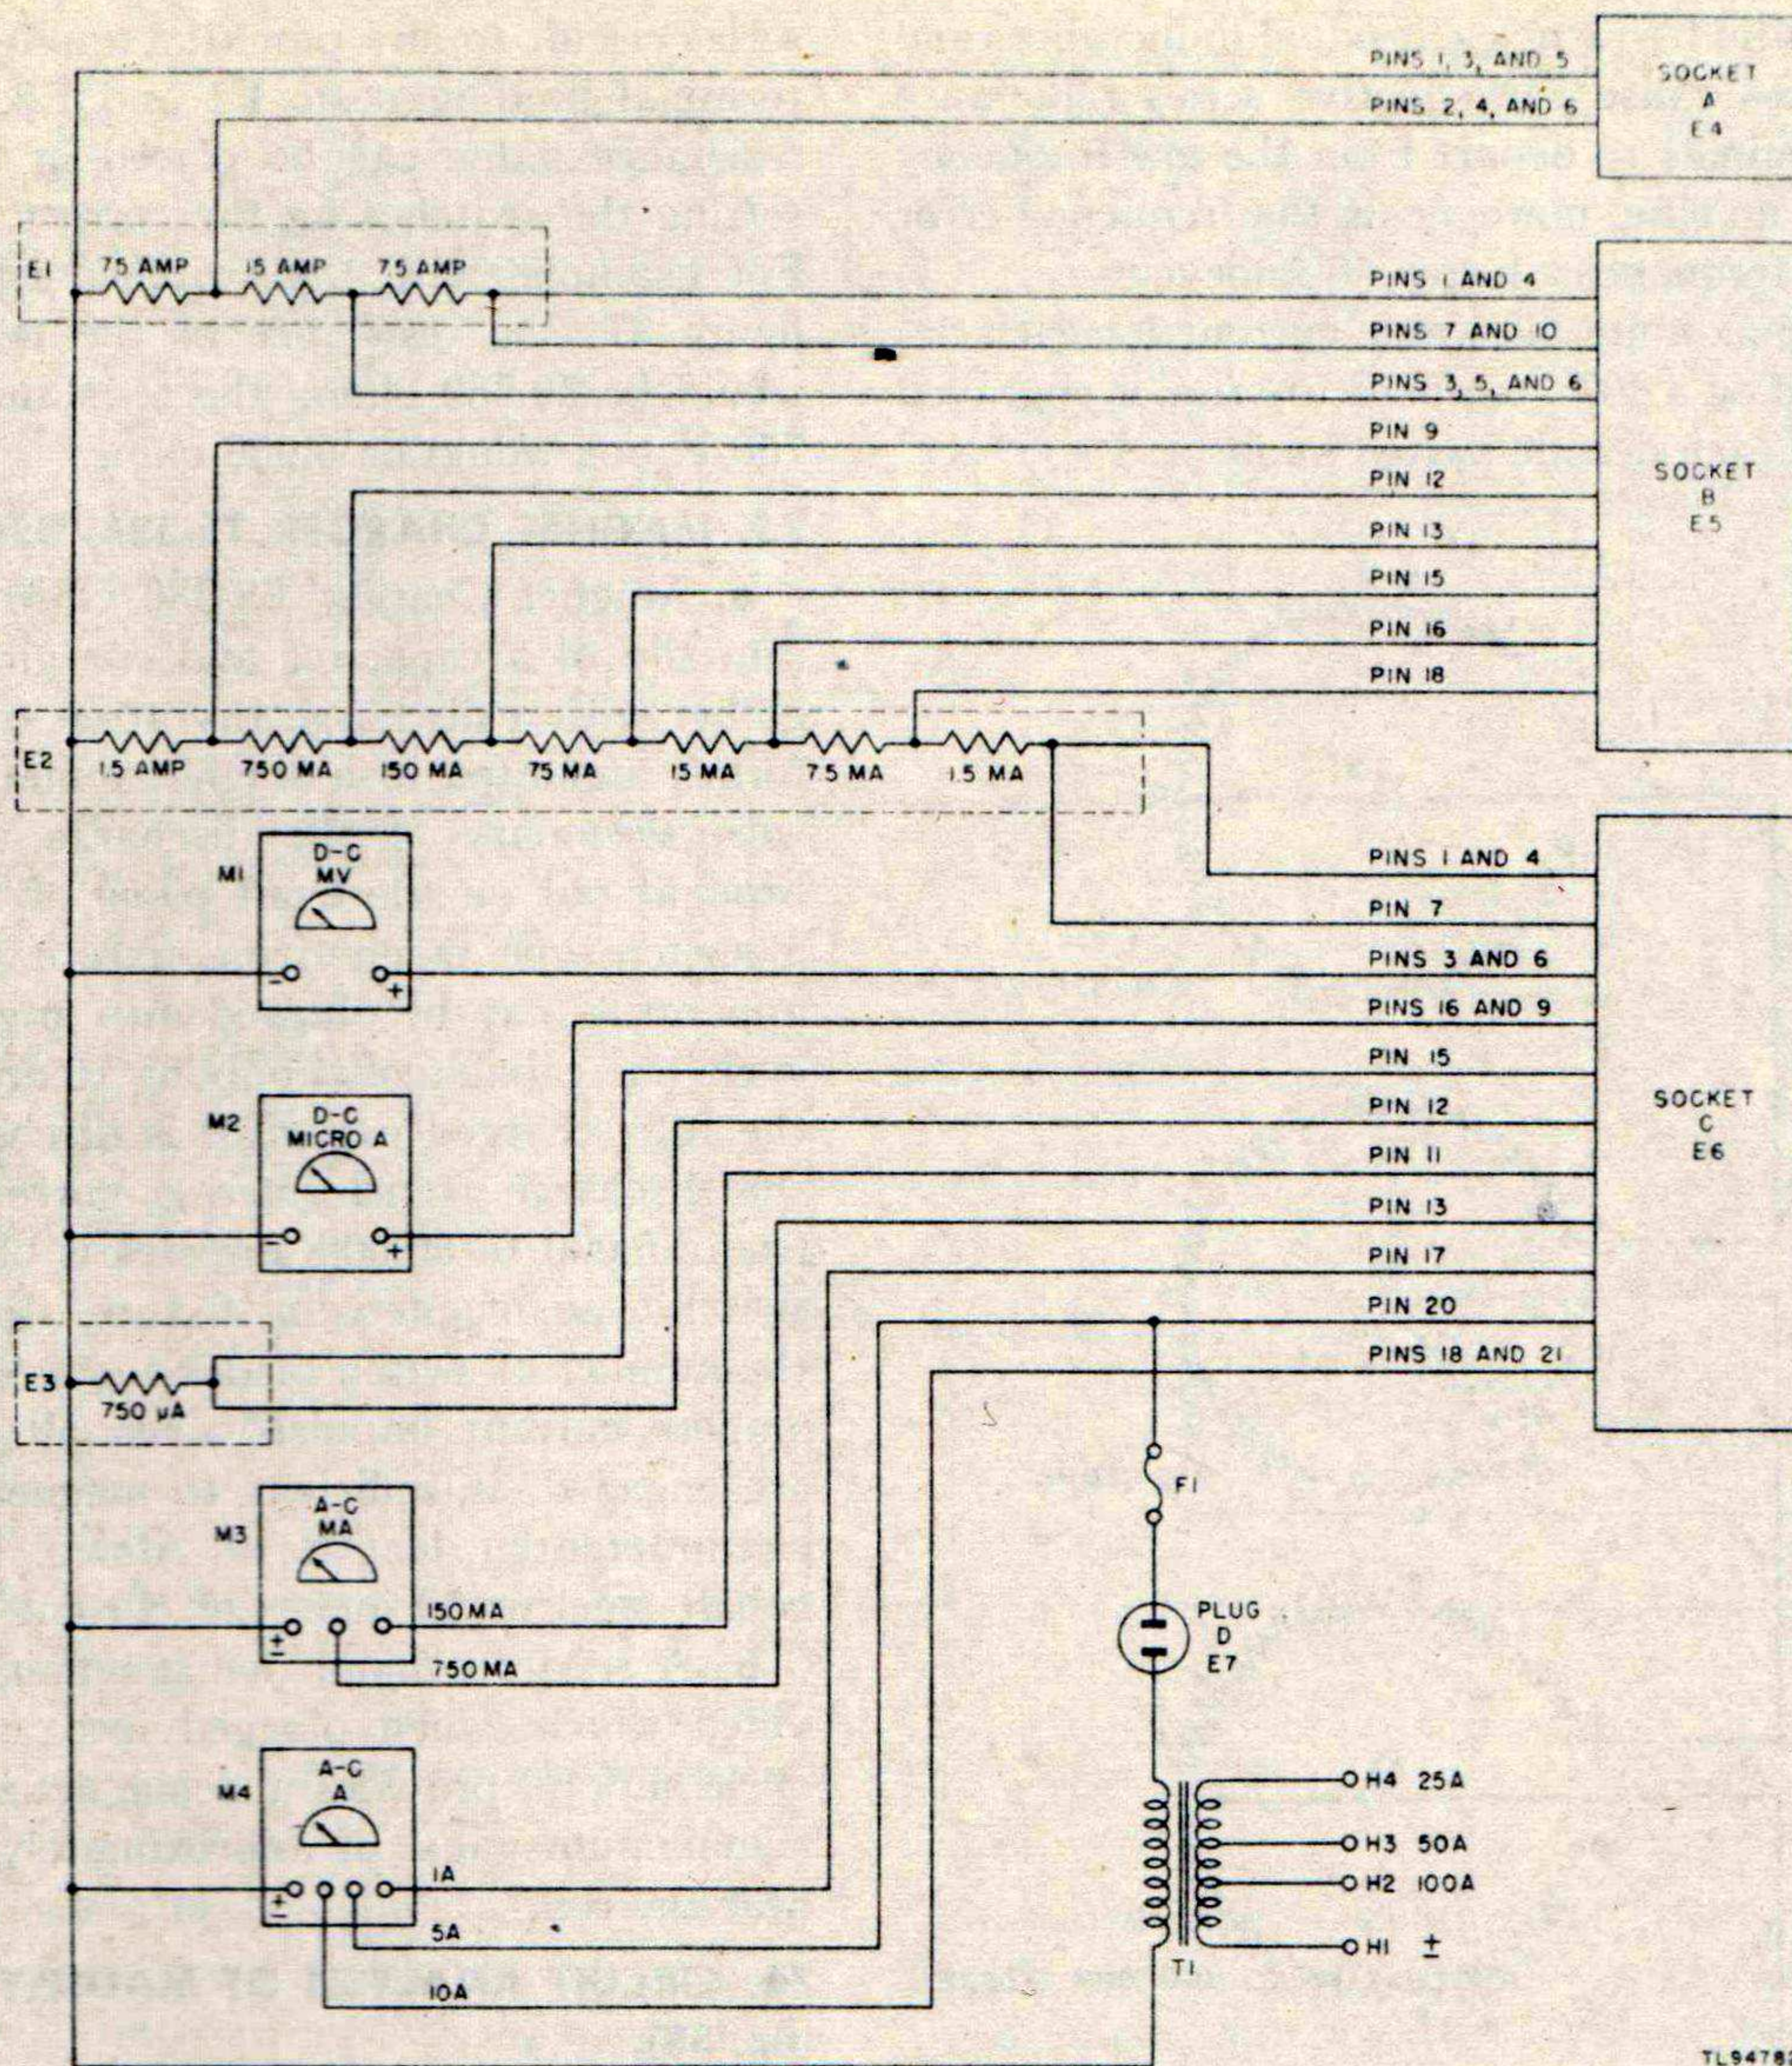

Figure 36. Schematic diagram of Ammeter Standards Unit TS-50/GSM-1.
73. AMMETER STANDARDS UNIT TS-50/GSM-1 (fig. 36).